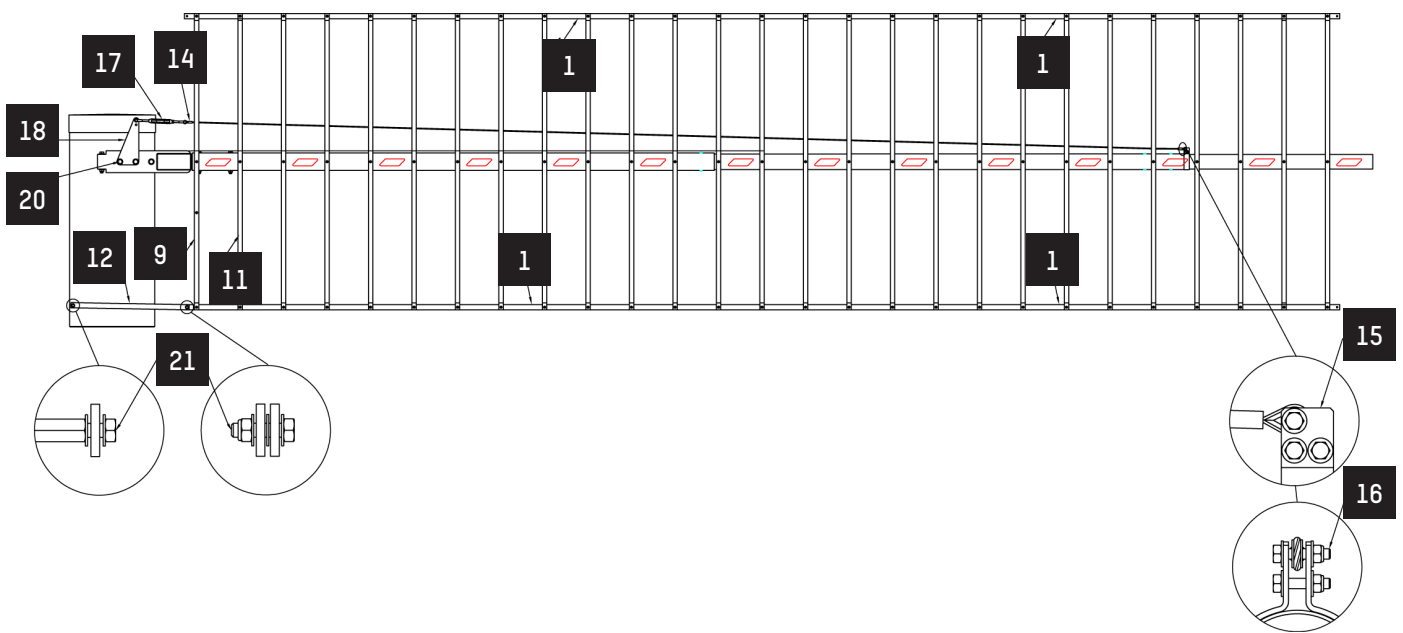
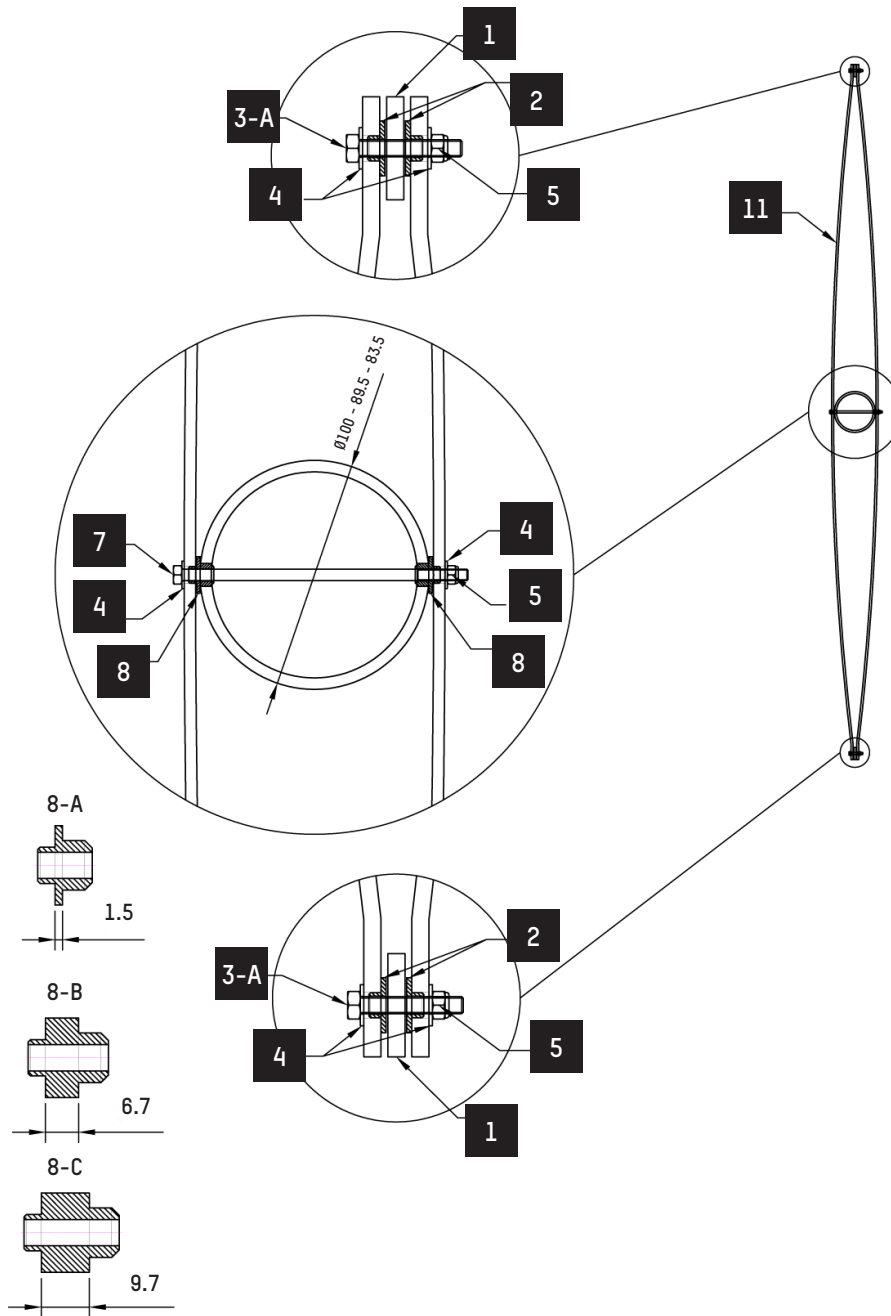
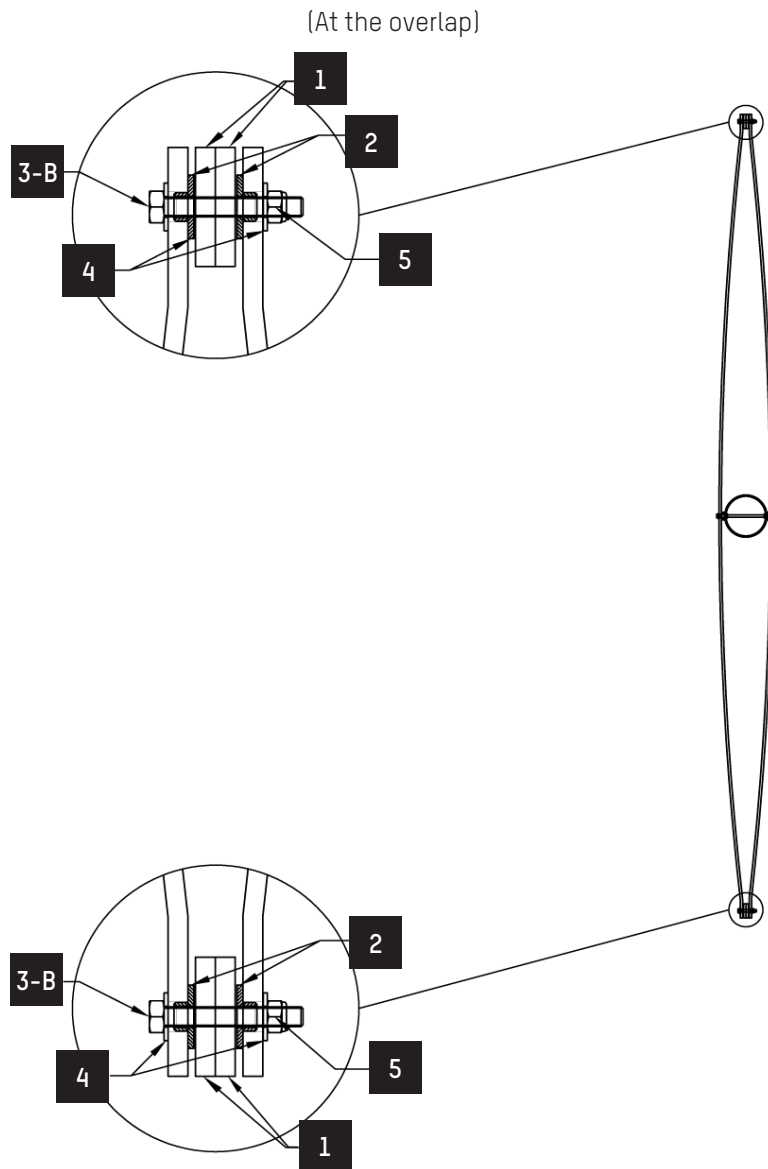

Fig. 23 - Installation of the folding fence
Fig. 25 - Installation of the folding fence - Assembly of the bars
Fig. 26 - Installation of the folding fence - Assembly of the upper and lower link bars
1. Insert the first arm sleeve (16) into the bracket (20) and tighten using the bolts (17), washers (18) and nuts (19). Insert the second sleeve, if any, into the first ( $\Rightarrow$  Chap. 6.5.2, page 31).
5. Assemble the entire fence in one of the following ways [the references refer to the illustrations (Fig. 23, Fig. 24, Fig. 25 and Fig. 26)]:
- If the fence is delivered completely disassembled or during repairs: start by fitting the guy ring, the first bar kit (9), then alternately a white and red bar (11), along with the link bars (1).
- If the fence is delivered assembled on the various arm segments: by connecting the link bars (1) of the various elements.